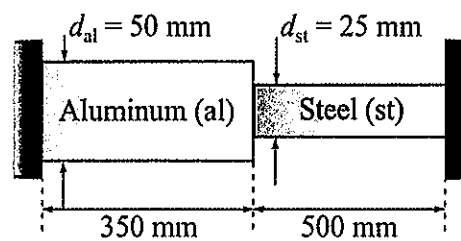

Figure 1(c) / Rajah 1(c)
- (c) A compound bar, consisting of aluminum and steel materials, is rigidly fixed in series between walls at a temperature of 90°C as illustrated in Figure 1(c). If the temperature drops to 35°C , compute: